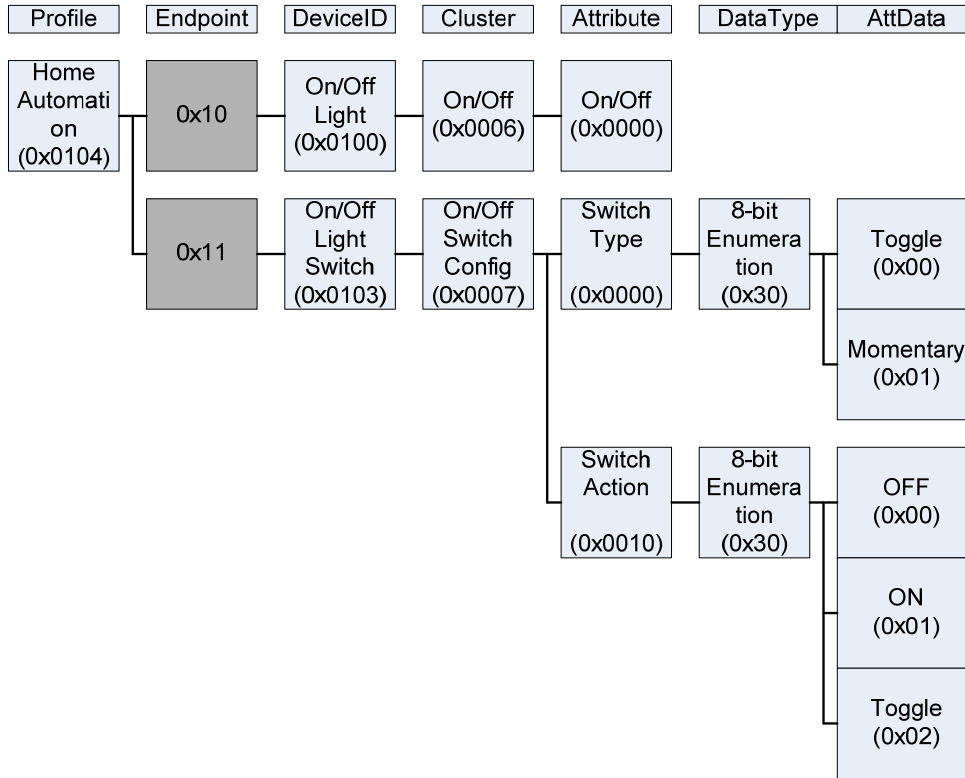

Figure 5 – Home Automation Profile Example
Figure 5 is an example for a home automation profile which includes an On/Off Light device and an On/Off Light Switch device.
- **Endpoint ID:** Determined as a random value from 1 to 240. In the example shown in Figure 5 above, it is set to 0x10.
- **Endpoint ID:** Determined as a random value from 1 to 240. In the example shown in Figure 5 above, it is set to 0x11.
- **Attribute Data:** Attribute data is also defined for each attribute in On/Off Switch Config cluster. The Switch type attribute can have the value of 0x00(Toggle) and 0x01 (Momentary). The Switch action attribute can have the value of 0x00 (OFF), 0x01 (ON), 0x02 (Toggle).